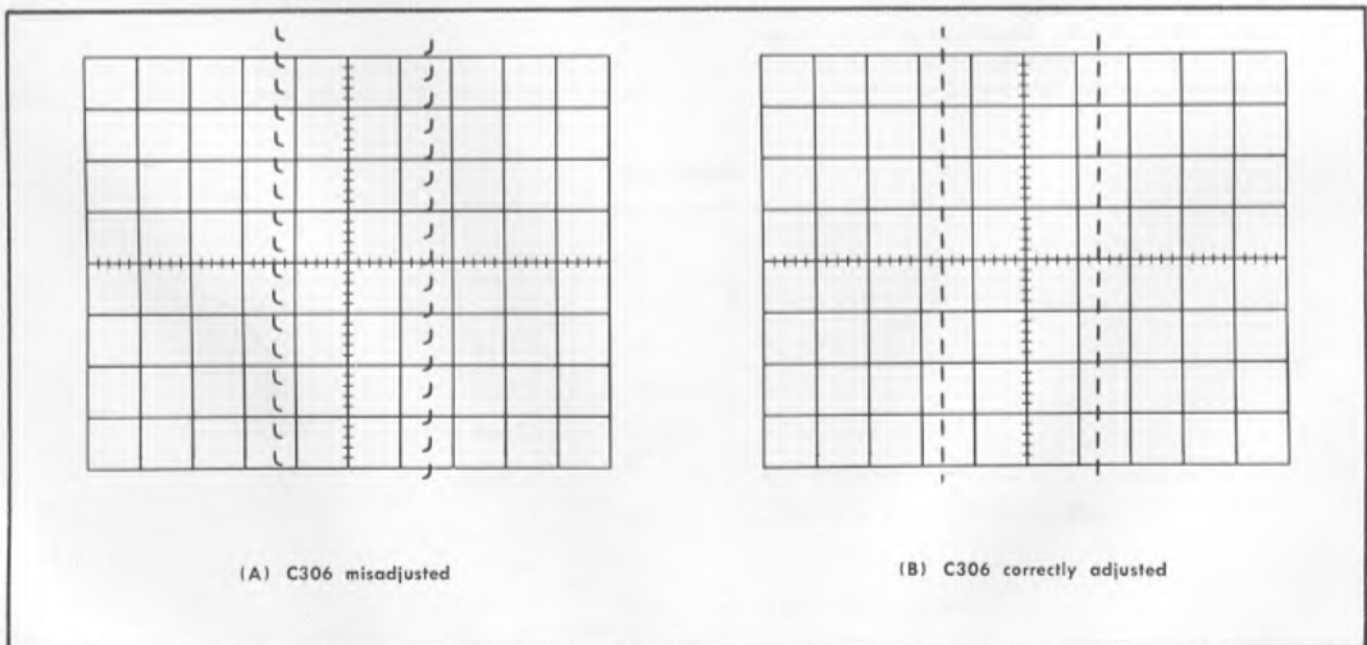

Fig. 6-22. Typical display, Horizontal Amplifier attenuator compensation adjustments; 1 kHz square-wave input; SWEEP TIME/CM switch setting, 2 mSEC.
- f. Rotate the LEVEL control to a point near 0 to obtain a stable display, similar to Fig. 6-22.
- h. Check—For an optimum square wave with flat top, similar to Fig. 6-22 (B).